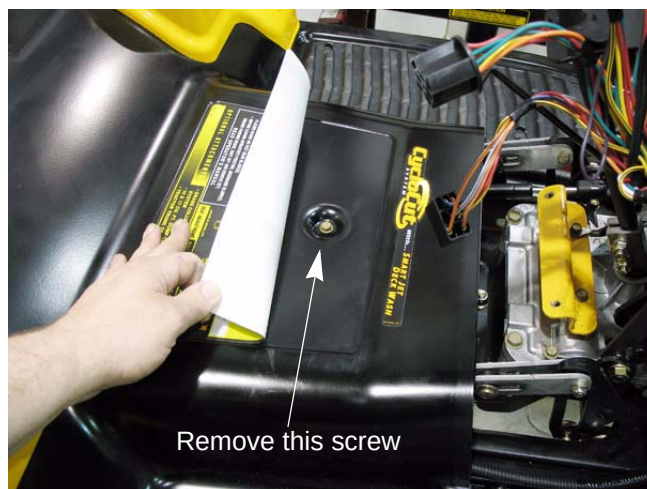

Figure 4.13
7. Remove the screw from the center of the fender. See Figure 4.13.